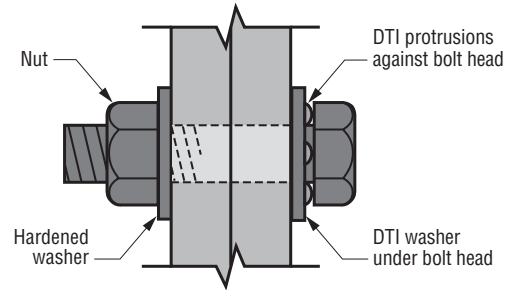

Figure 1
1. Install a DTI washer under the bolt head, with the protrusions against the bolt head. Slide the bolt through the connection holes. Install the hardened washer and nut on opposite side (*see Figure 1*).